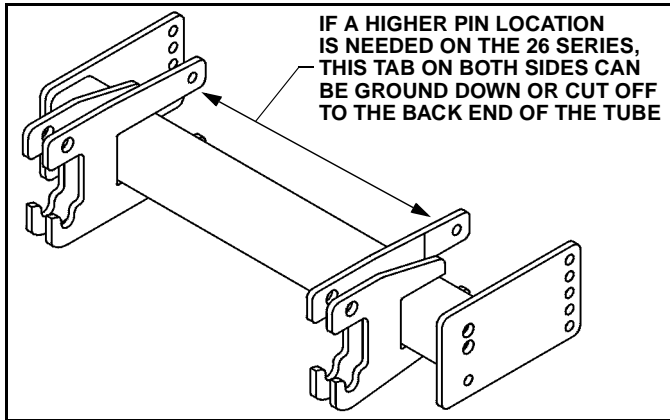

Figure 1
4. Attach (1) Side Weldment, LH (#2). Place the horizontal flange against the bottom of the frame rail, and align the slots in the Side Weldment with the tow hook holes. The front tab must clear the bumper mount studs on the front end of the vehicle frame. Using the existing bumper mount bolts, finger tighten the three bumper mount nuts. Next, insert (2) M12-1.75 x 60 mm Cap Screws (#9) or (2) M12-1.25 x
**NOTE:** If installing the 26 Series Plow and want to obtain a higher pin height, the top rear portion of the center lugs maybe ground off or cut flush with the back of the tube. (See Figure 1.)